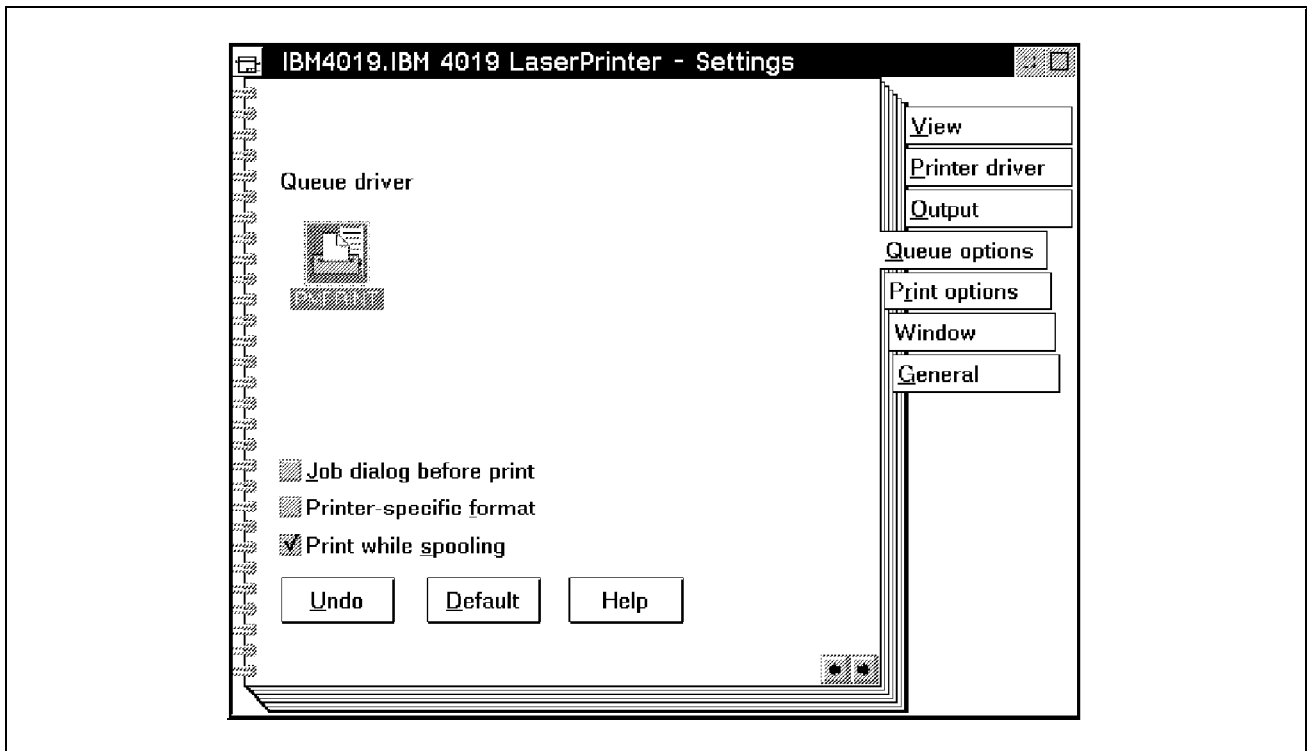

Figure 39. Installing a Queue Driver Object
- Click mouse button 2. You will see a window as shown in Figure 39 on page 115.